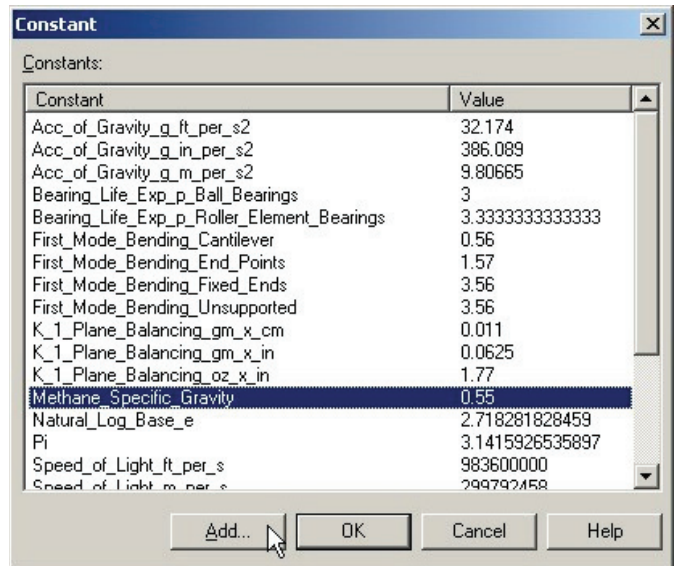

Figure 5. The Constant dialog.
- Select a constant from the list and click **OK** to insert it in the expression, or create a new constant by clicking the **Add** button (for example, the highlighted constant in **fig. 5** was created for use in Methane gas flow rate calculations).